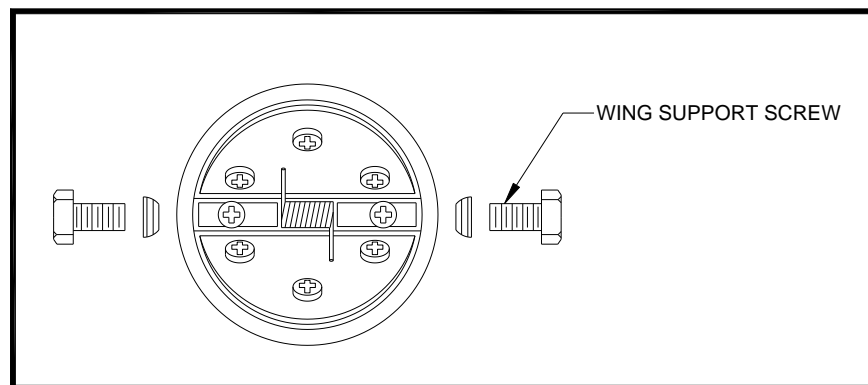

Figure DFF-22
- Remove all valve internals by unscrewing the wing support (see Figure DFF-22) and any other body-support rods such as travel-stop rod (only on large size valves)